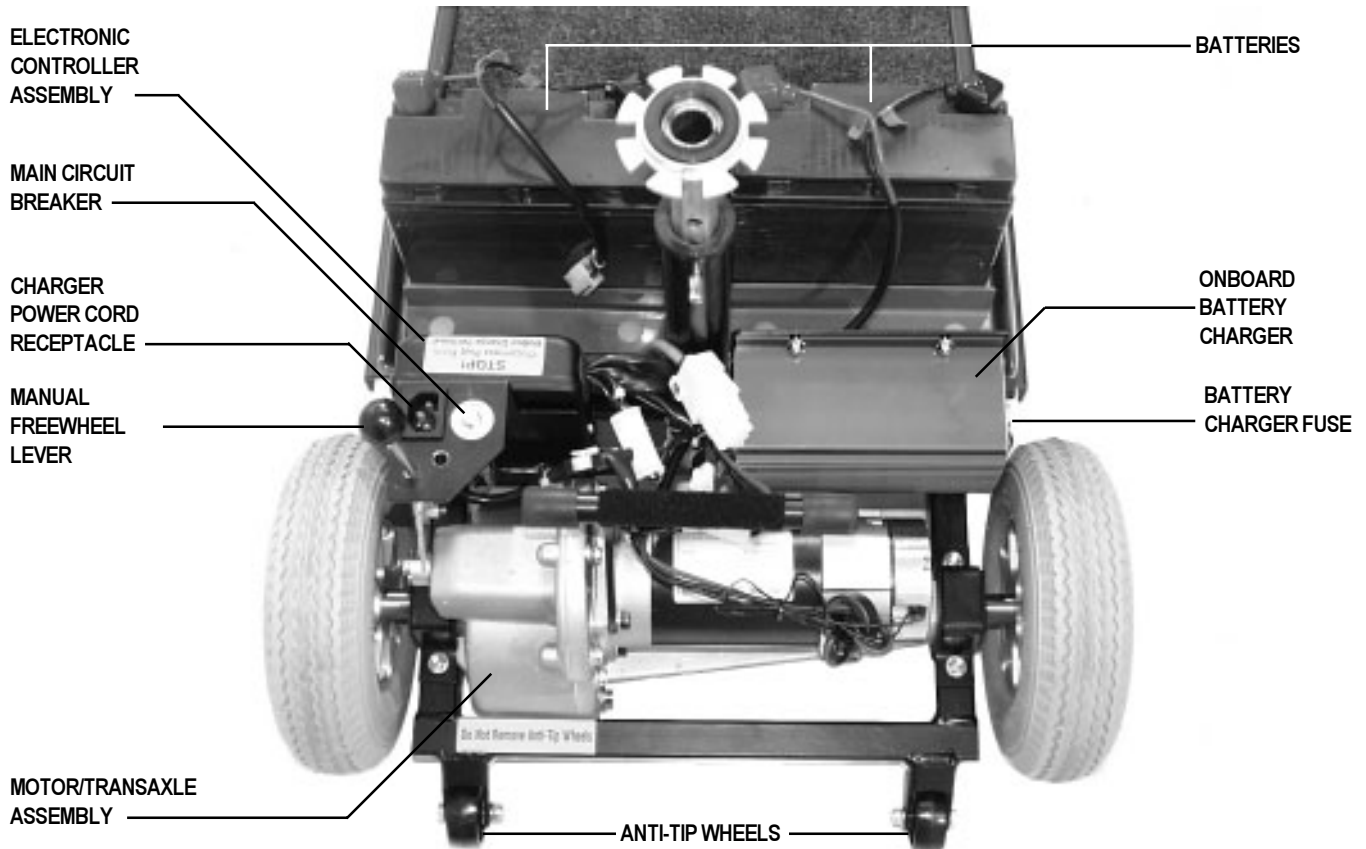

Figure 7. Rear Section
The onboard battery charger, the charger power cord receptacle, the battery charger fuse, the batteries, the electronic controller assembly, the main circuit breaker, the manual freewheel lever, and the motor/transaxle assembly are located on the rear section of your Rally. See VIII “Disassembly and Assembly” for instructions on removing the rear shroud. The anti-tip wheels are at the rearmost part of your Rally. See figure 7.
- The charger power cord plugs into the battery charger by means of a receptacle located on the rear section of your Rally, near the manual freewheel lever and the main circuit breaker reset button. See figure 7.
- The main circuit breaker is mounted on the rear section of the Rally, near the manual freewheel lever. See figure 7.
- The manual freewheel lever is located on the end of the motor/transaxle assembly at the left rear of the Rally, and extends through the rear shroud. See figure 7.
The motor/transaxle assembly consists of a geared transmission and differential. This one piece, direct drive, fully sealed assembly provides quiet operation with maximum power and long life. See figure 7.
The anti-tip wheels are an integral and important safety feature of your Rally. Do not, under any circumstances, remove the anti-tip wheels from your Rally. See figure 7.
Your Rally requires two long-lasting, 12-volt, deep-cycle batteries that are sealed and maintenance free. They are recharged by an onboard 2,5-amp charging system designed for ease of use and convenience. See figure 7.
4. Plug the charger power cord into the charger power cord receptacle at the rear of your Rally. See figure 7.